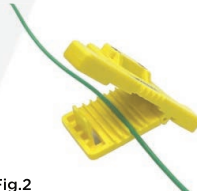

Fig.2
5. Close the tool completely until the clasp engages. (*Fig.2*)